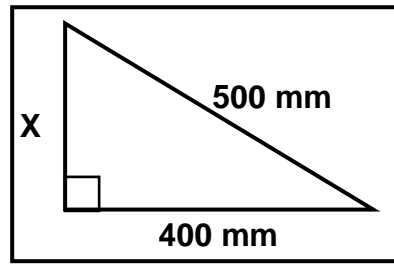

FIGURE 4.14
- (1)
4.14 What is the value of **X** in FIGURE 4.14?